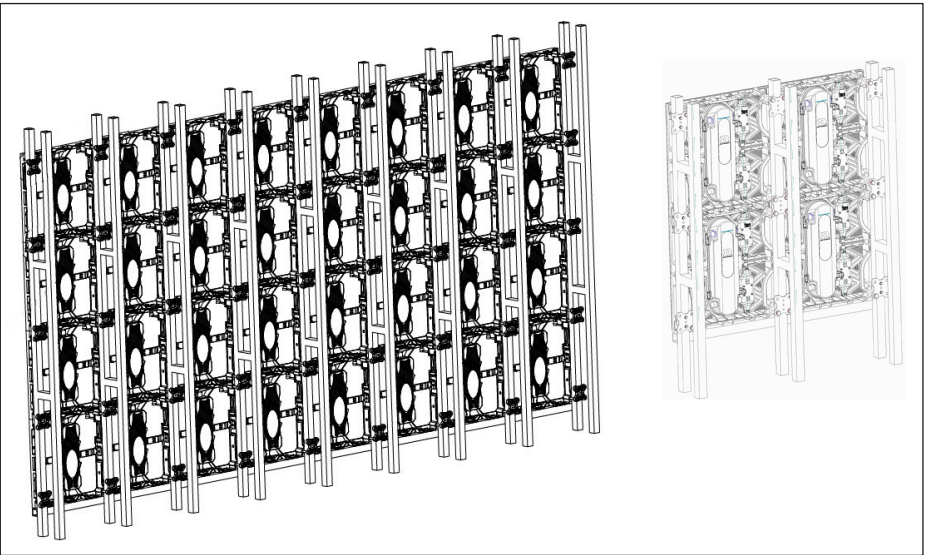
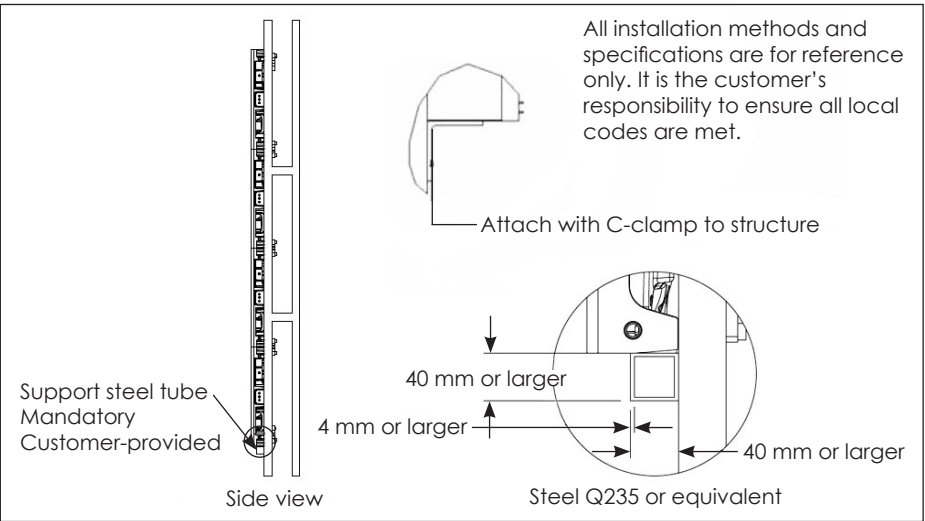

Figure 32: Angle Installed for First Row Alignment
Figure 33: Angle Attachment to Structure
- 2. Attach an angled metal section with a total length of two panels or more to the bottom of the metal structure with a C-clamp to support the first row. Ensure the metal support piece is horizontally level and plumb. Refer to **Figure 32** and **Figure 33**.